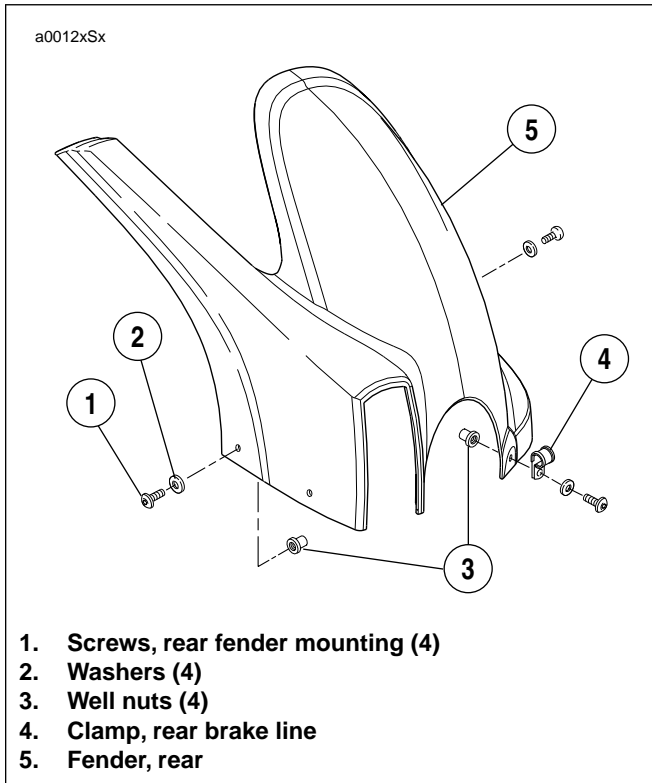

Figure 2-108. Rear Fender Assembly
3. See Figure 2-108. Remove rear fender mounting screws and washers from rear fender.